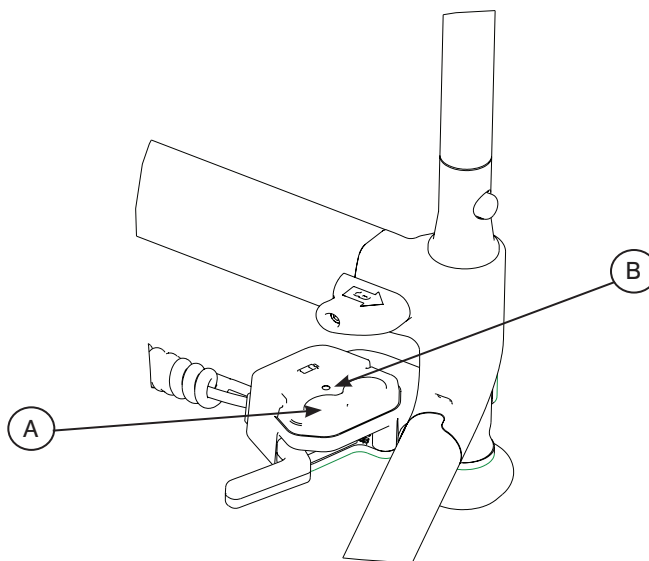

Figure 34 - Extend and Retract Button
To check the battery power level, depress **lightly** on the minus (-) button (A) to activate the battery power indicator light (B) (see Figure 34). The battery power indicator is located on the button at the foot end, represented by the red or green light.